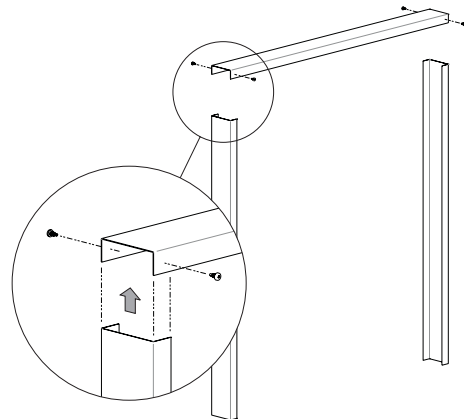

Figure 12
- Connect the side framing studs to the top stud as shown in Figure 12. The channel of the studs should face inward.